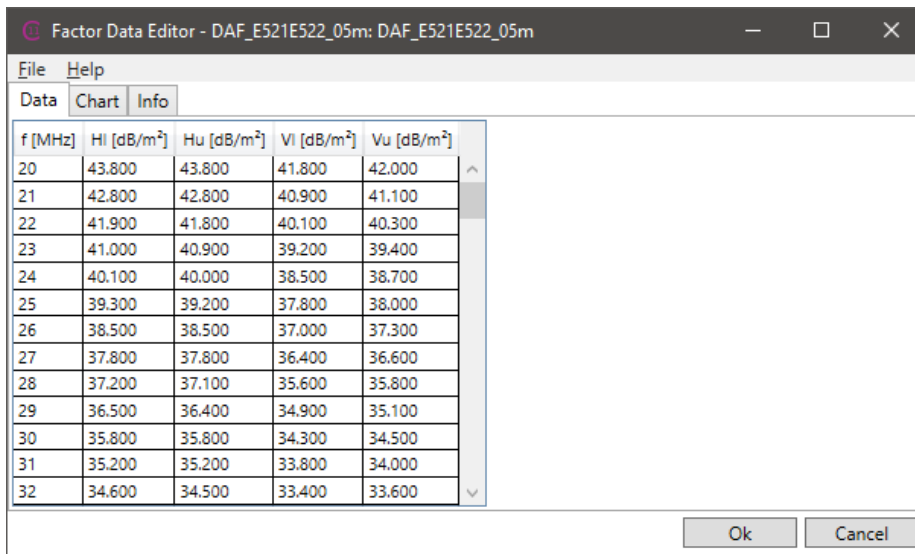
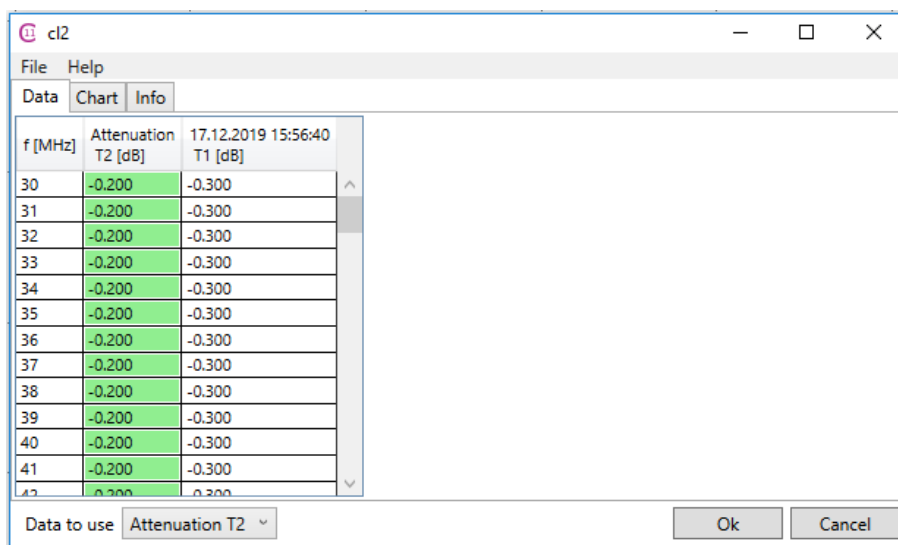

Figure 30: Factor file dialog – Data tab for Dual Antenna Factor
Figure 31: Factor file dialog – Data tab for Cable Loss
1. Data page – shows factor data (see Figure 30 and Figure 31)
When more than one factor is available you need to choose the one to use, see Figure 31 where “Attenuation T2” is selected as example.